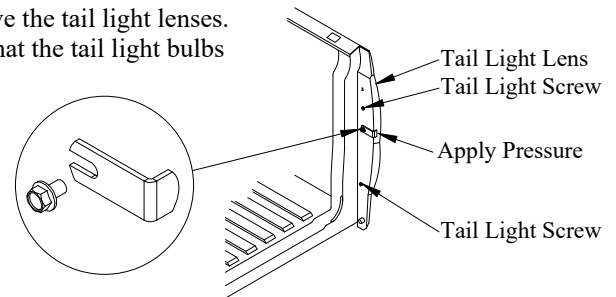

Figure 6: Tail light modification detail.
1. **Remove** four (4) factory tail light screws, two (2) per side (Figure 6).
2. **Remove** tail light lenses (Figure 6).
5. **Install** M8 x 1.25 x 12 bolts and tail light clips (supplied) in the tailgate cable catch bolt locations (Figure 6).
6. **Apply** pressure to the tail light from the rear while tightening the bolt (Figure 6).